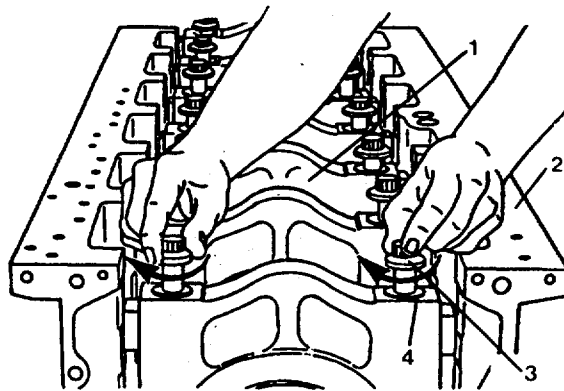
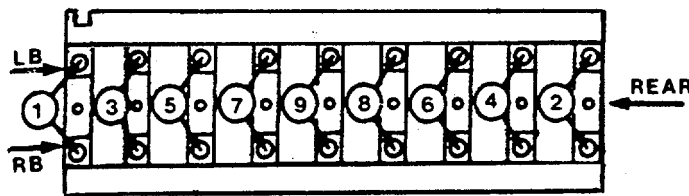

FIGURE 4-58. Main Bearing Cap Installation.
FIGURE 4-59. Main Bearing Capscrew Torquing.
Main bearing caps are numbered 1 through 9. Position caps (1, FIG. 4-58) to the block (2) carefully to avoid dislocation of bearing shell.
- l. Torque main bearing capscrews (3, FIG. 4-58) using the procedure in Table 4-5 and the sequence in FIG. 4-59.